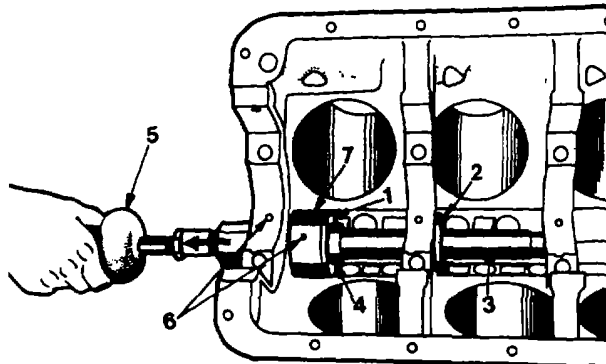

Figure 126. Installing Front Camshaft Bearing
- 7. Remove bar and front adapter. Position new bearing on front adapter with chamfered side toward case. Slide bar into case and through second adapter serving as a pilot (Figure 126).
- 8. Align oil holes and in front bearing (Figure 126).